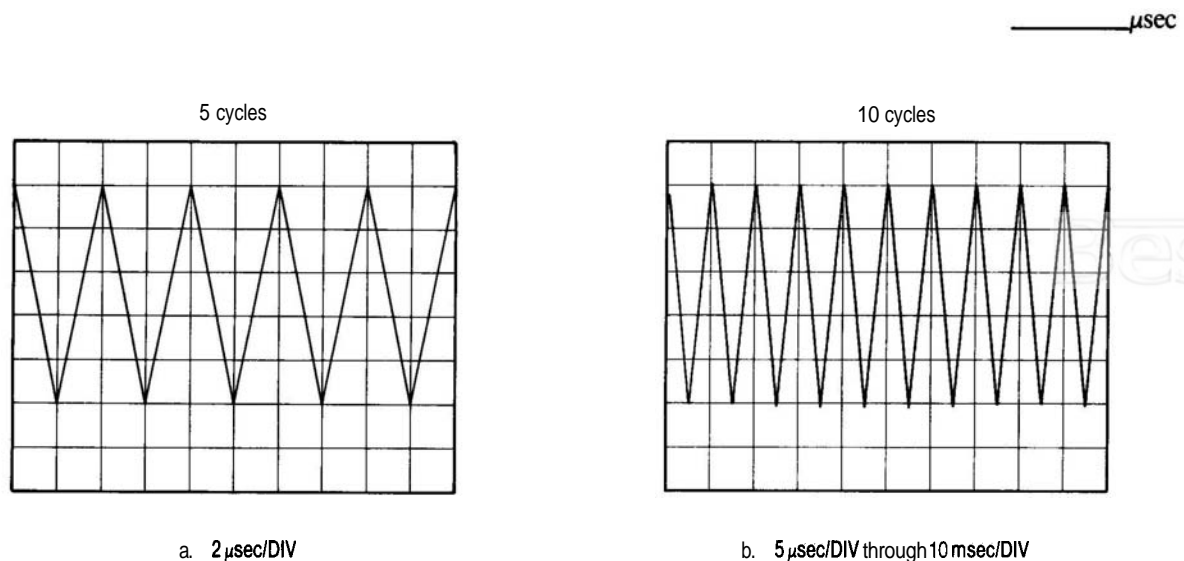

FIGURE 4-20. SWEEP TIME ACCURACY
1. Connect spectrum analyzer CAL OUTPUT to frequency counter's 10 Hz – 500 MHz (**50Ω**) input as shown in Figure 4-20. Measured output frequency should be $35 \text{ MHz} \pm 400 \text{ kHz}$.